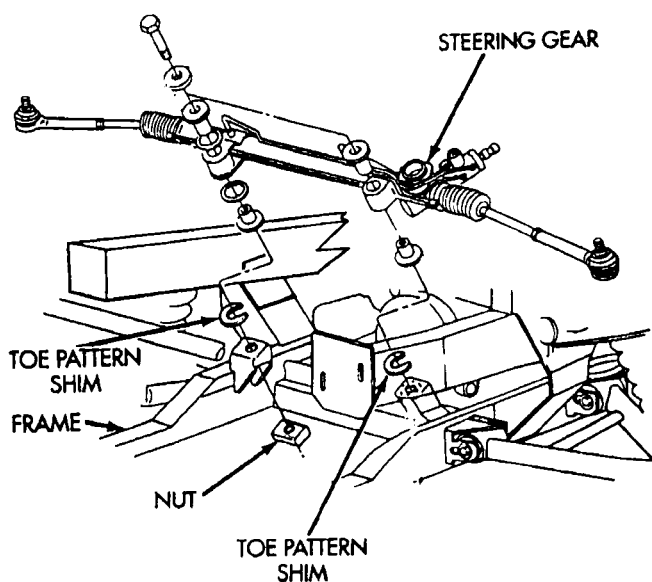

Figure 5
CAUTION: There are selective toe pattern shims located between the steering gear mounting bushings and the steering gear crossmember (Figure 5). Using a grease pencil, mark the shims (right or left side) so that they can be reinstalled into their original position.
NOTE: The right side steering gear mounting bolt has a tapping plate nut located on the bottom side of the steering gear crossmember (Figure 5). The tapping plate nut must be saved.
20. Lift the left side of the steering gear slightly and place the left side selective toe pattern shim(s) under the steering gear mounting bushing (Figure 5). Then install the mounting bolt. Do not tighten the mounting bolt at this time.
21. Lift the right side of the steering gear slightly and place the right side selective toe pattern shim(s) under the steering gear mounting bushing (Figure 5). Then install the mounting bolt and tapping plate nut.